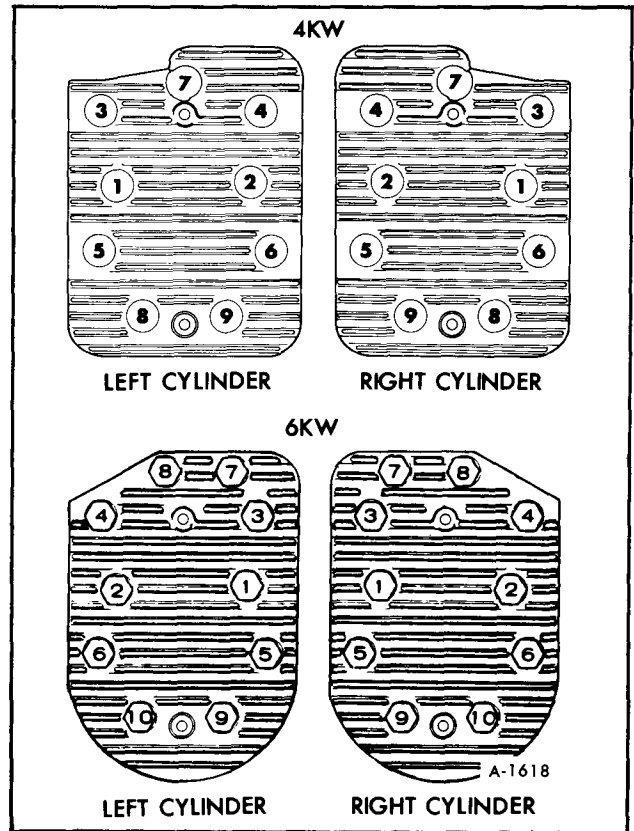

Figure 29—Cylinder Head Tightening Sequence
4. Place heads in position and follow head torque tightening sequence shown in Figure 29. Start out tightening all Nuts to 5 ft.-lb, then 10 ft.-lb, etc., until all Nuts are torqued 14-16 ft - lb. (17-19 ft.-lb. on 6KW).